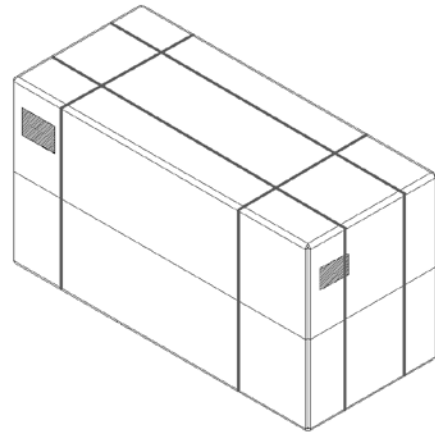

Fig. 1
1. Locate an open area to unbox the packaged machine (Fig. 1).